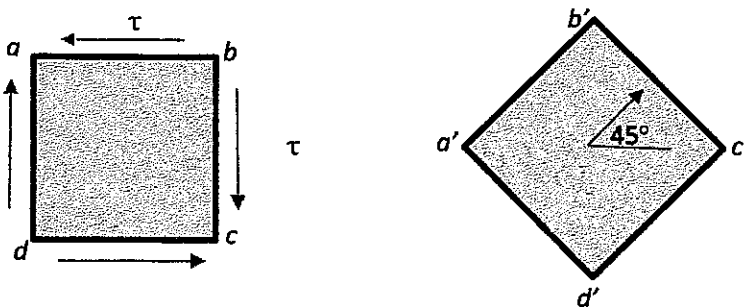

Fig. 2 (a)
2. For a plane element $abcd$ subjected to pure shear τ (see Fig. 2(a)), (a) derive the strain along diagonal direction bd in terms of shear modulus G . (10%); (b) find the stress state when the element is oriented at 45° (see Fig. 2(b)) and show it on the oriented element. Also derive the normal strain along $a'b'$ in terms of Young's modulus E and Poisson's ratio ν . Also use the answer in (a) to show the relation $G = \frac{E}{2(1+\nu)}$. (10%)